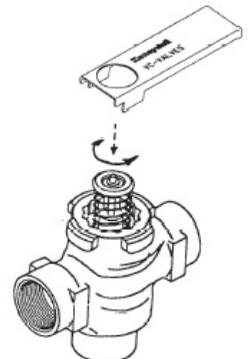

Figure 2
5. To replace a cartridge, isolate flow to the valve using installed shut off valves or other service equipment designed for this purpose. Remove old cartridge with 40007029-002 wrench supplied with the replacement unit (See Figure 2). It may be necessary to use pliers or other tools to remove the old cartridge due to calcium or dirt buildup in the valve body.